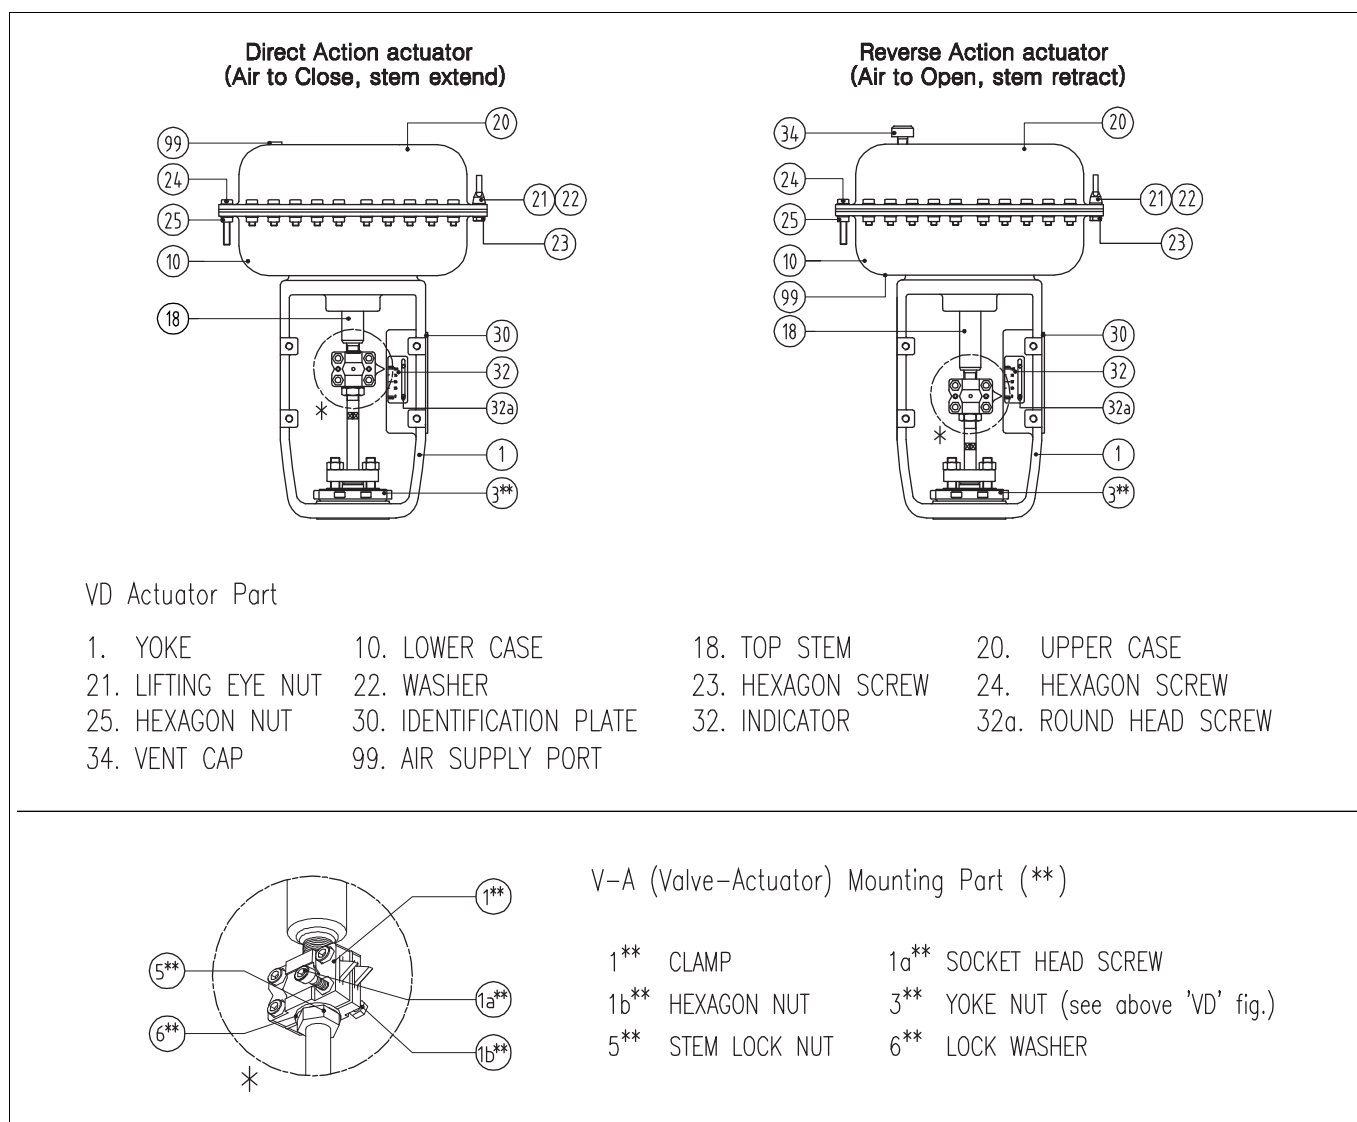

Fig. 13 VD Actuator
A. Actuator removal for Reverse <air to open, stem retract> actuator (Fig. 13)
B. Actuator removal for Direct <air to close, stem extend> actuator (Fig. 13)